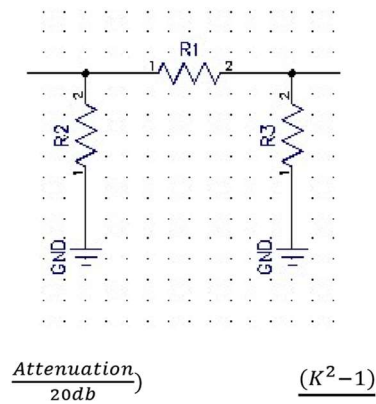

Figure 3. Power Divider PAD: PI Attenuator.
- Note that the power input of the PA is 1mw RMS and 5mw PEP. Higher input power levels can be accommodated by adjusting R1, R2, and R3 on the input power PAD. Use an appropriate Pi-type Pad calculator to determine R1, R2, and R2 for higher powers as shown in Figure 3.